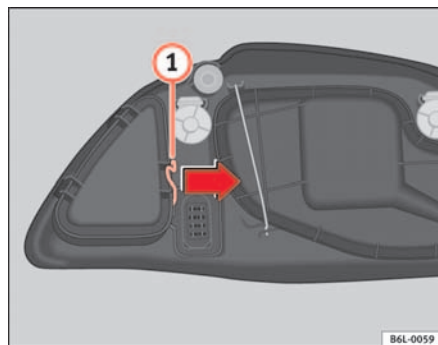

Fig. 154 Side lights
- Remove the loops (1) ⇒ fig. 154 in the direction of the arrow and remove the cover.